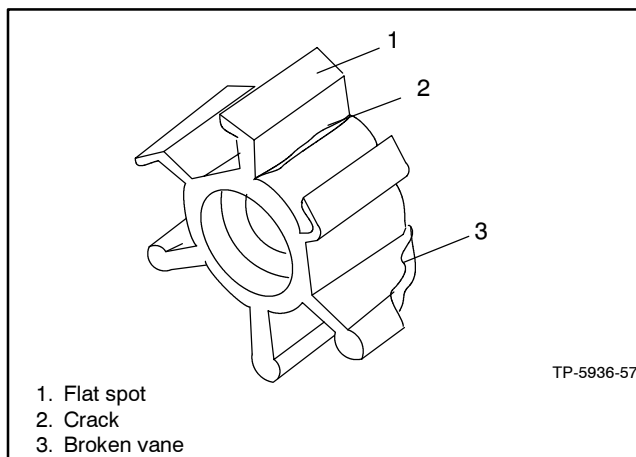

Figure 5-5 Worn Impeller
4. Inspect the impeller for damage, including visible cracked, broken, worn or missing fins. The impeller vanes should be straight and flexible. See Figure 5-5.